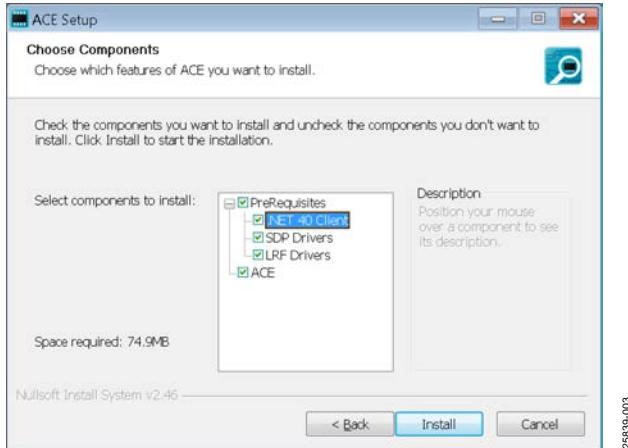

Figure 3. Required Driver Installations with the ACE Software
3. Install the latest version of the ACE software. During the installation, ensure that the **.NET 40 Client, SDP Drivers, and LRF Drivers** components are selected (see Figure 3).